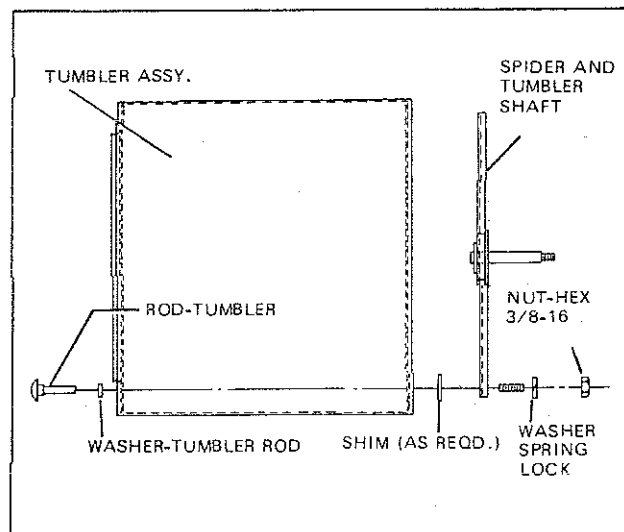

Figure 3-12. Tumbler Assembly
3. From the front of the machine, remove the cylinder and spider assembly. (Refer figure 3-12).